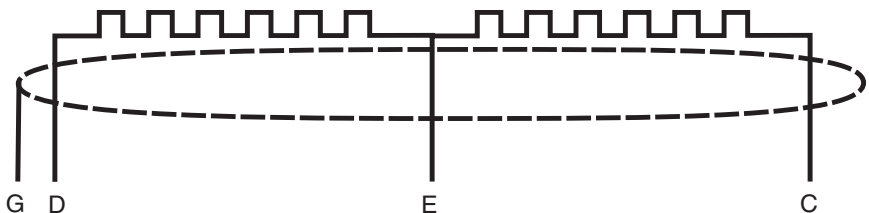

Figure 2 Present heater configuration
- a) The **PRESENT** heater assembly configuration (Figure 2) uses **G** as a ground connection
3. If you have the **PRESENT** heater assembly configuration (Figure 2), connect all the wires as labeled on the terminal block.